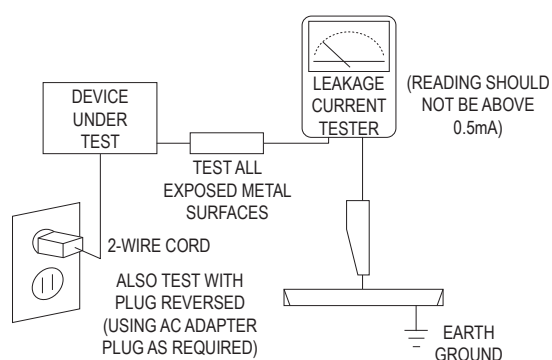

Fig. 1-1 AC Leakage Test
3. Check for Electricity Leakage (Fig. 1-1)